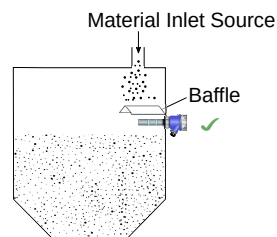

Figure 44: Coat-Endure with Baffle
- For side-mounting, provide a baffle to prevent the material from falling on the probe. Please refer to Figure 44.